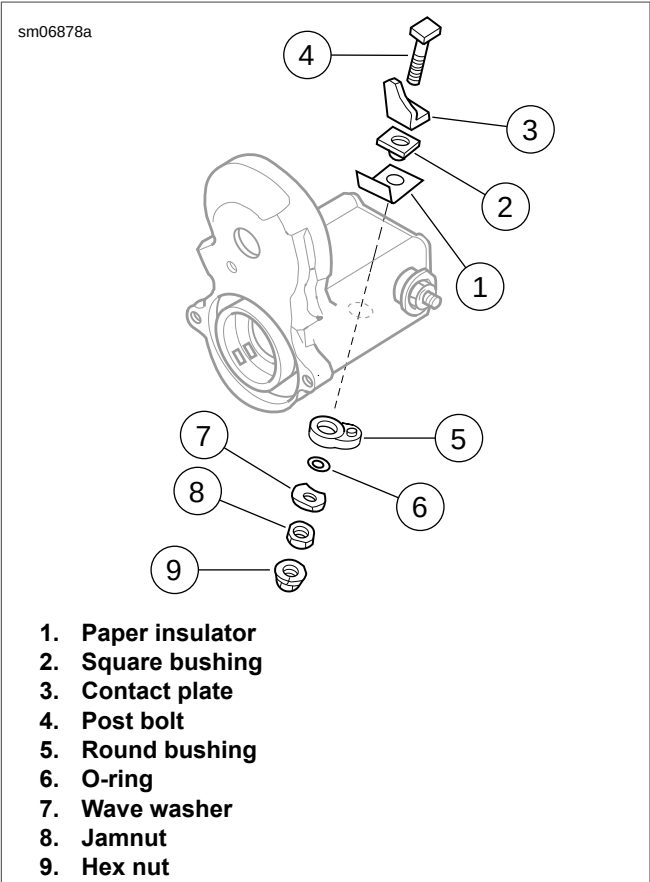

Figure 7-29. Long Post Contact (battery)
- See Figure 7-29. Remove the long post contact:
- Remove hex nut (9).
- Remove jamnut (8), wave washer (7), O-ring (6) and the round bushing (5).
- Remove post bolt (4), contact plate (3), square bushing (2) and paper insulator (1).